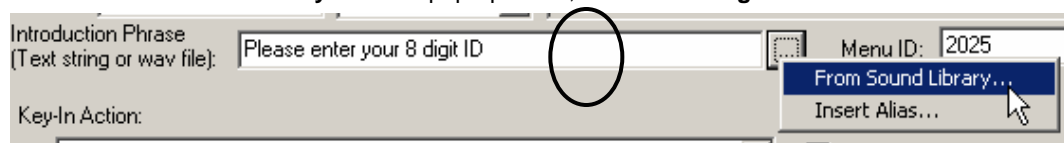

Figure 9.29. Adding a Sound File to the Menu Configuration
1. Click the ... button next to an appropriate field (the **Introduction Phrase** field is used here as an example) and select **From Sound Library** from the pop-up menu, as shown in **Figure 9.29**.